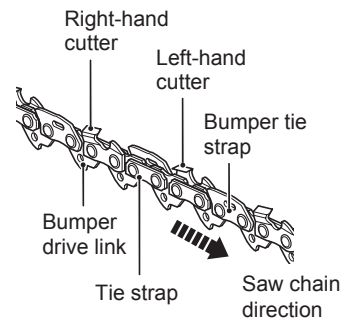

Fig. 17
2. The height difference between the tooth and the ridge is the cutting depth. When sharpening the saw chain (4) you have to consider the following points (Fig. 17).